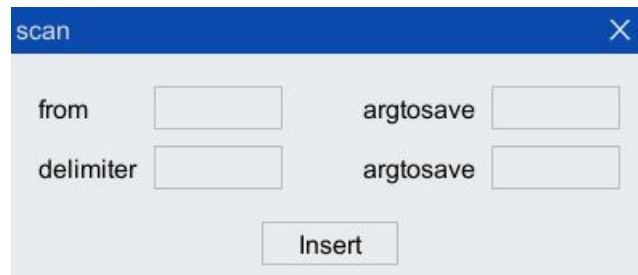

Figure 5-38 "scan" instruction configuration interface
Step1. Click "Insert Cmd> auxiliary instruction> scan" option in the toolbar of the program editor to pop up "scan" instruction interface, as shown in Figure 5-38.